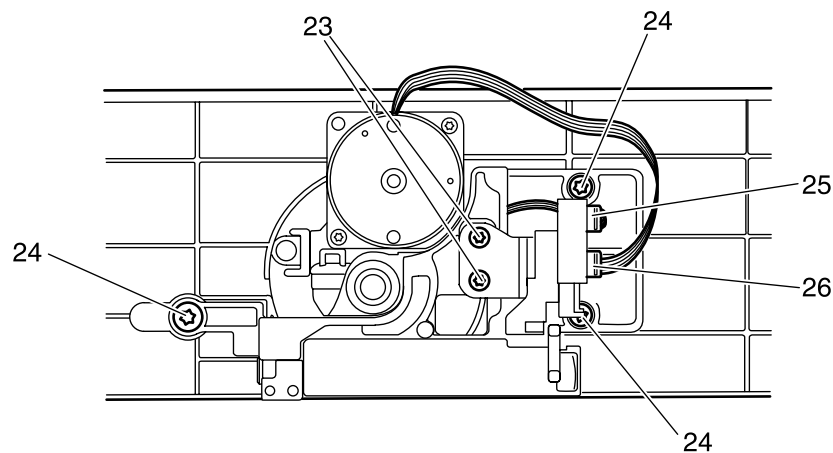

**Fig. 13**
12. Stack up the motor holder 24 onto the sliding arm and tighten the Torx screws 27 (Fig. 13).